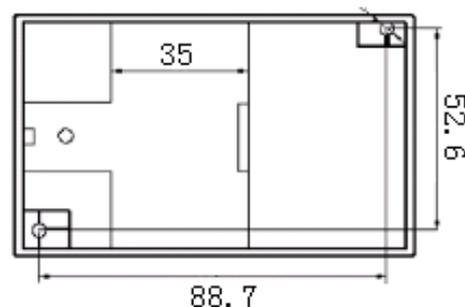

Figure 3, SK outline installation dimensions
DIN35 rail mounting or screw mounting, the installation size shown in Figure 3 (in mm).
- ①The transducer fixed on the side of the card slot and hook on the mounting rail;
- ②Pull the spring pin down;
- ③Clip the transducer mount on the mounting rail;
- ④Release the spring pin and clip the transmitter on the mounting rail.
- ①3mm diameter hole in the fixed plate according to the screw hole position shown in Fig. 3;
- ② Use the screw Φ3 to insert into hole and secure it.